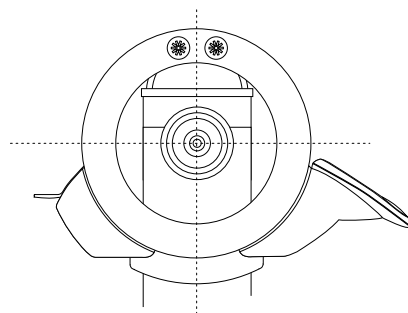

Fig 4.6 - Pilot should be central to wheel shaft
7. Fit the Wheelpilot to the pedestal mount by inserting the two guide rods into the slots on the pedestal mount. Check that the Wheelpilot ring is centralised around the wheel shaft (Fig 4.6). If necessary, reposition the pedestal mount by removing the pilot and the front plate and loosening the band clamp.